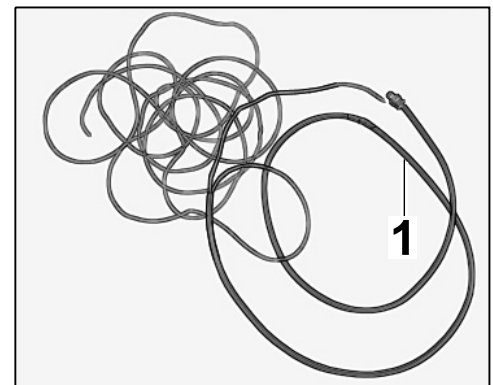

Figure 12
- 3.1.4 Pull wire harness for sports exhaust system ⇒ *Figure 12 -1-* into the 1.8 m long cable casing using welding wire (e.g. MIG welder coil).